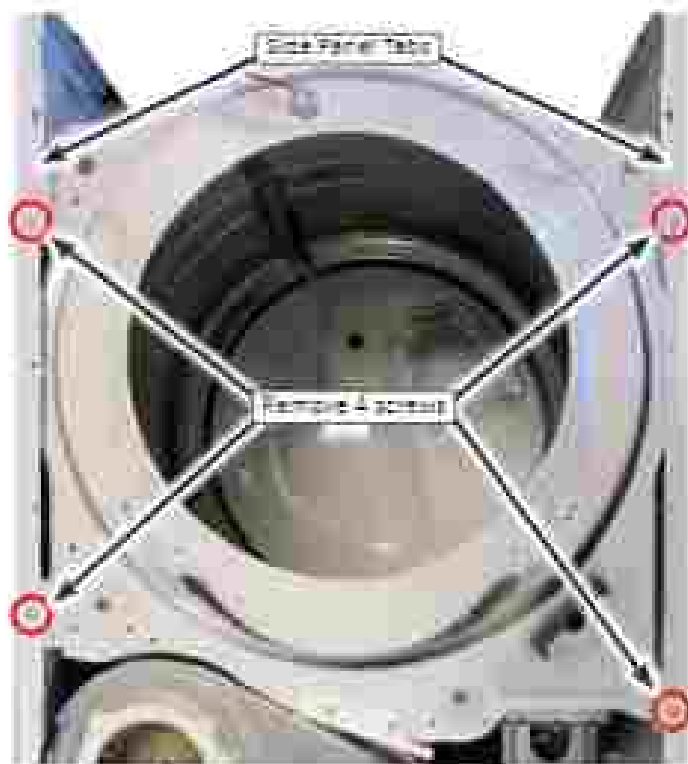

Figure 4 - Remove front bulkhead screws.
7. Remove the four (4) 1/4" hex-head screws securing the front bulkhead to the side panels as illustrated in Figure 4. Lift the bulkhead up off the side-panel tabs and remove.